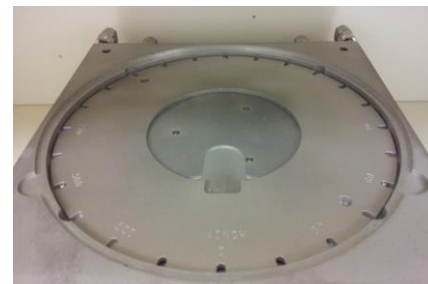

Figure 2. Installed wafer locator ring
4. Wafer locator rings are used to position the wafer at the center of the sample stage. Select the correct wafer locator ring for the substrate and position it in the tool, Figure 2. **Make sure the ring sits flat in the stage.** Available ring locator sizes can accommodate 4", 6" and 8" wafers. Each locator ring is marked at 30° intervals and has a notch at each 15° interval. By rotating the ring and wafer, stress mapping across an entire wafer can be performed.